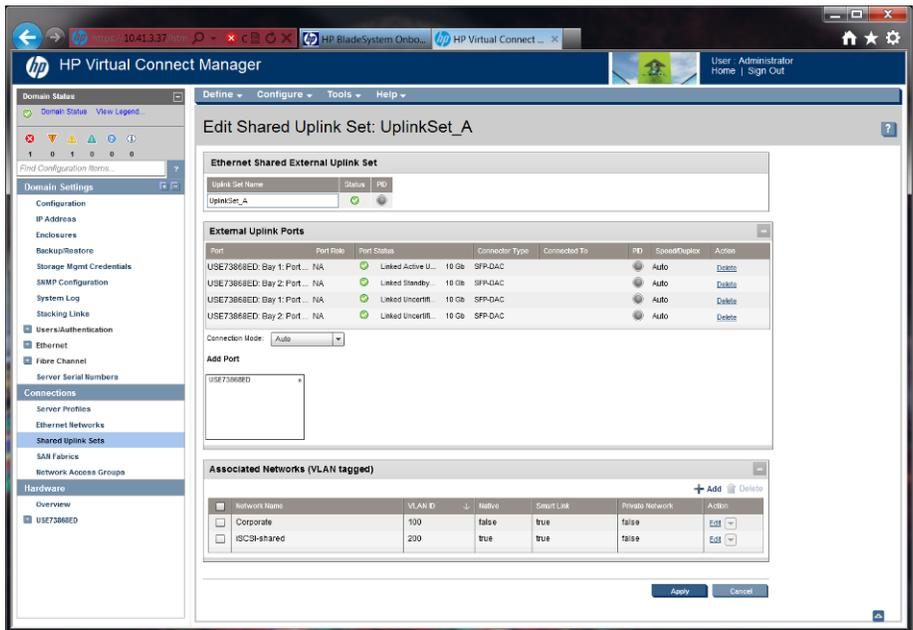

Figure 15: Applying settings.
11. Select the Smart Link checkbox, and click Apply. (See Figure 15.)